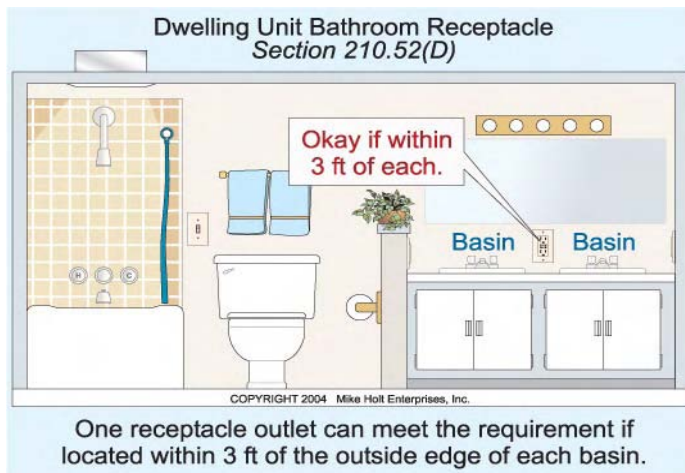

Figure 210-59
- One receptacle outlet could be located between two basins to meet the requirement, but only if the receptacle outlet is located within 3 ft of the outside edge of each basin. **Figure 210-59**